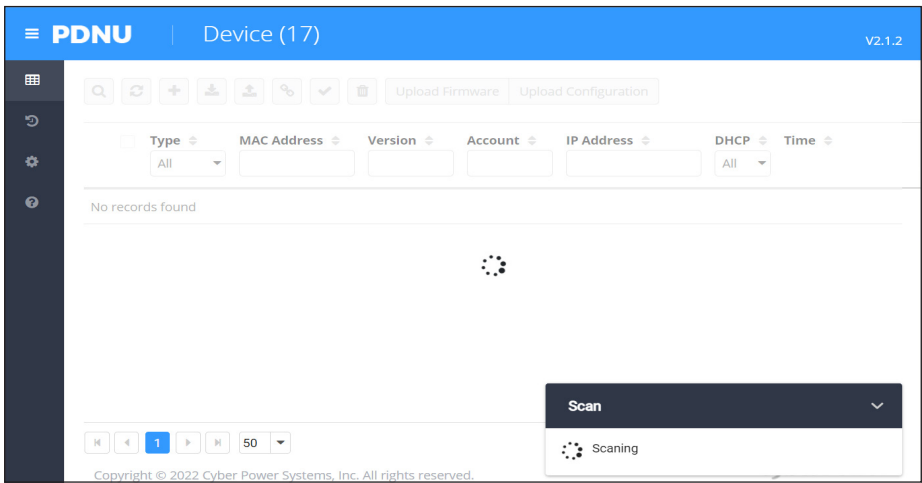

Figure 1
- 3. Wait for scanning to finish (shown in Figure 1).